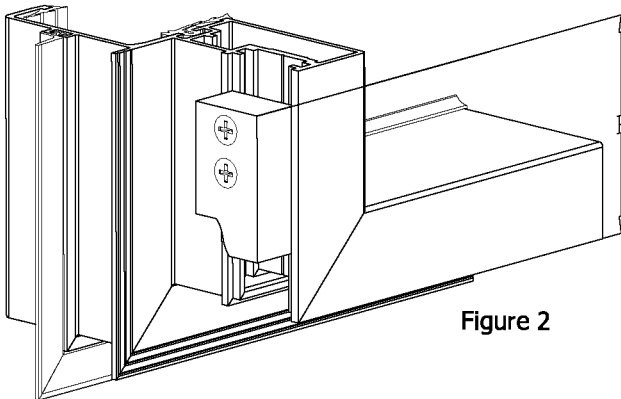
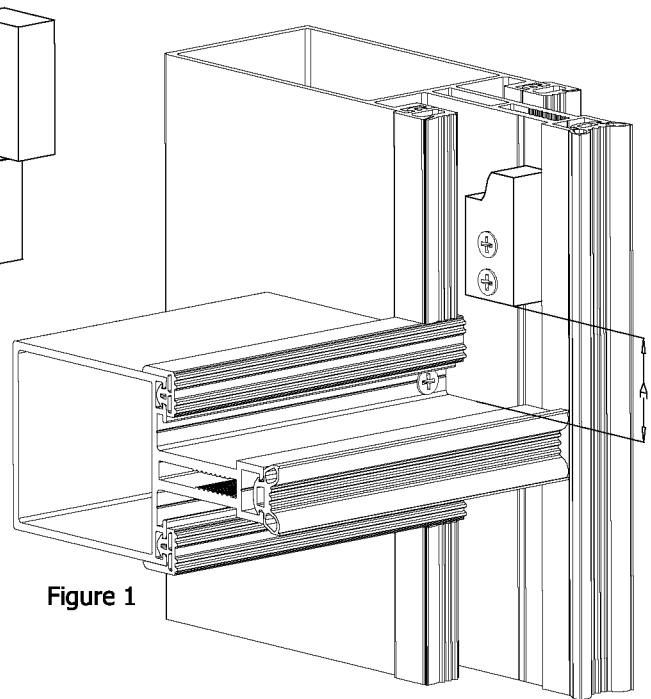

Figure 2
Figure 1
*In order to install the mullion-sash joint to the sash, we measure the distance A that we have installed mullion-sash joint to the mullion (figure 1) and to the dimension B (figure 2) we add 44.7mm